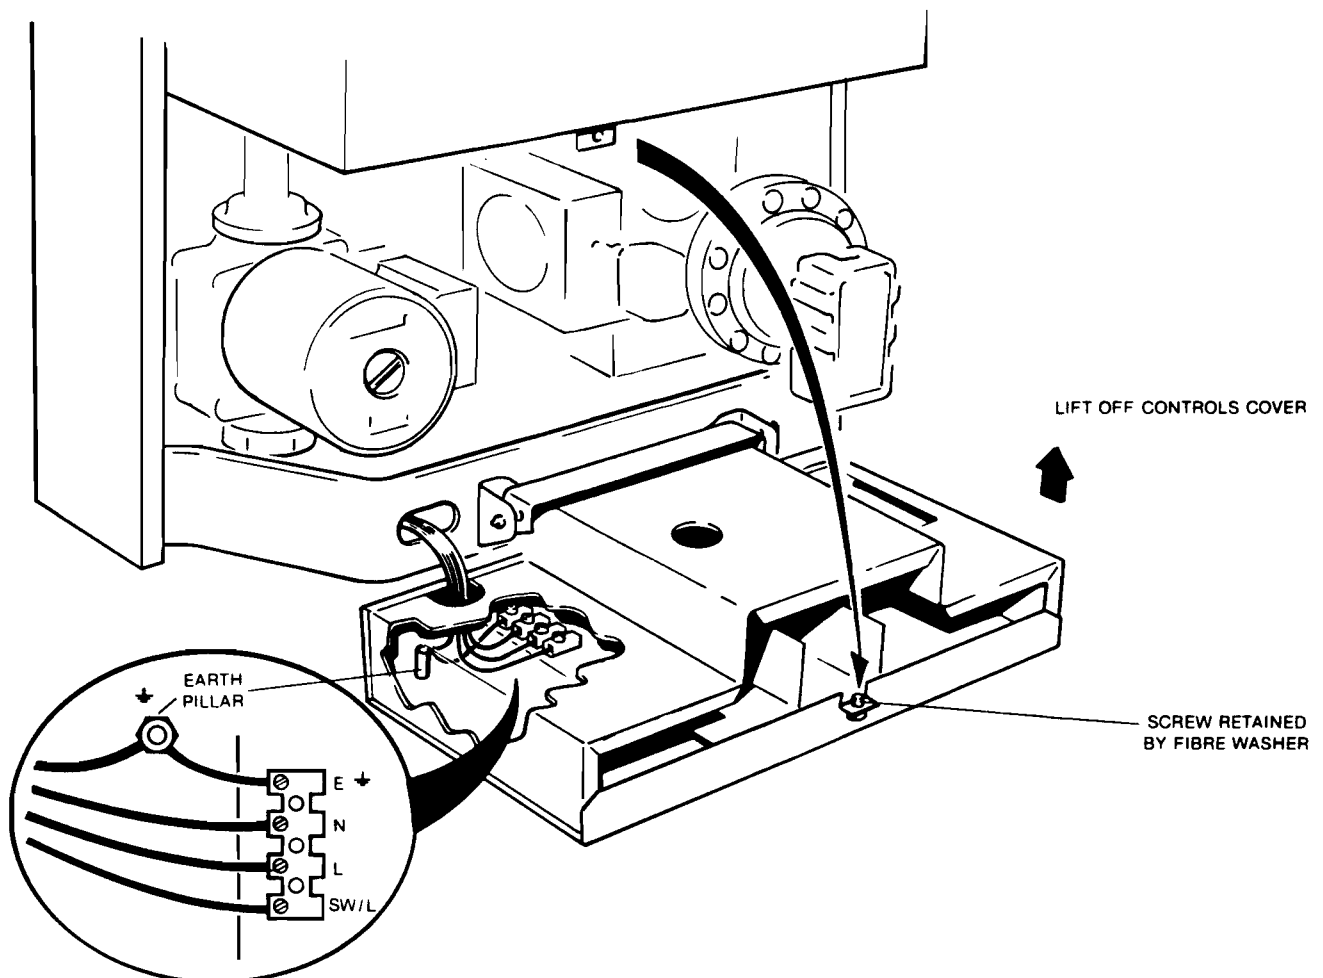

FIG. 29 ELECTRICAL CONNECTIONS
- Pass a four-core cable (a minimum cable size of 0.75mm²) through the bulkhead hole on the left hand side connect to the terminal block L.N. SW/L. The earth terminal must be connected directly to the earth pillar on the panel (see Fig. 29) using the cup washers provided.